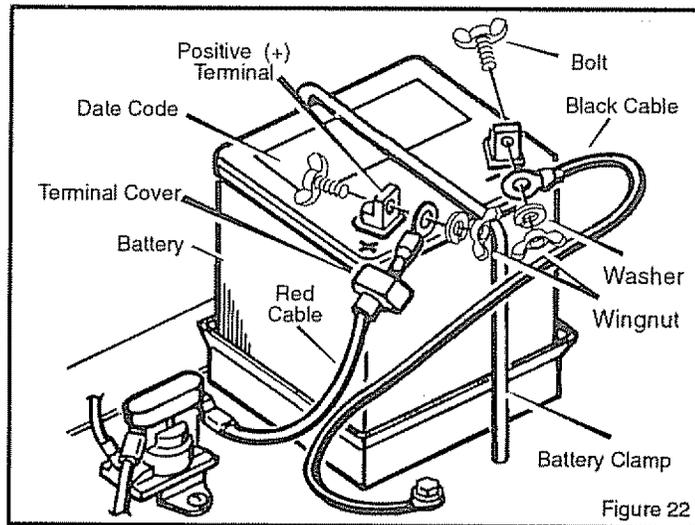

Figure 22
2. Make sure the shift lever is in the neutral (N) position.
3. Disconnect the adjustable nut from the brake arm (Figure 22).
If the motion drive belt is loose, the clutch will slip when; (1) going up a hill, (2) pulling a heavy load, or (3) the unit will not move forward. Check the clearance at the rear of the pedal lever (Figure 22). If the motion drive belt is loose, the clearance will be less than 1/2 inch and the clutch will slip. Adjust the clutch as follows.
1. Disconnect the adjustable nut from the idler bracket (Figure 22).
1. Remove the black cable from the negative (-) terminal (Figure 22).